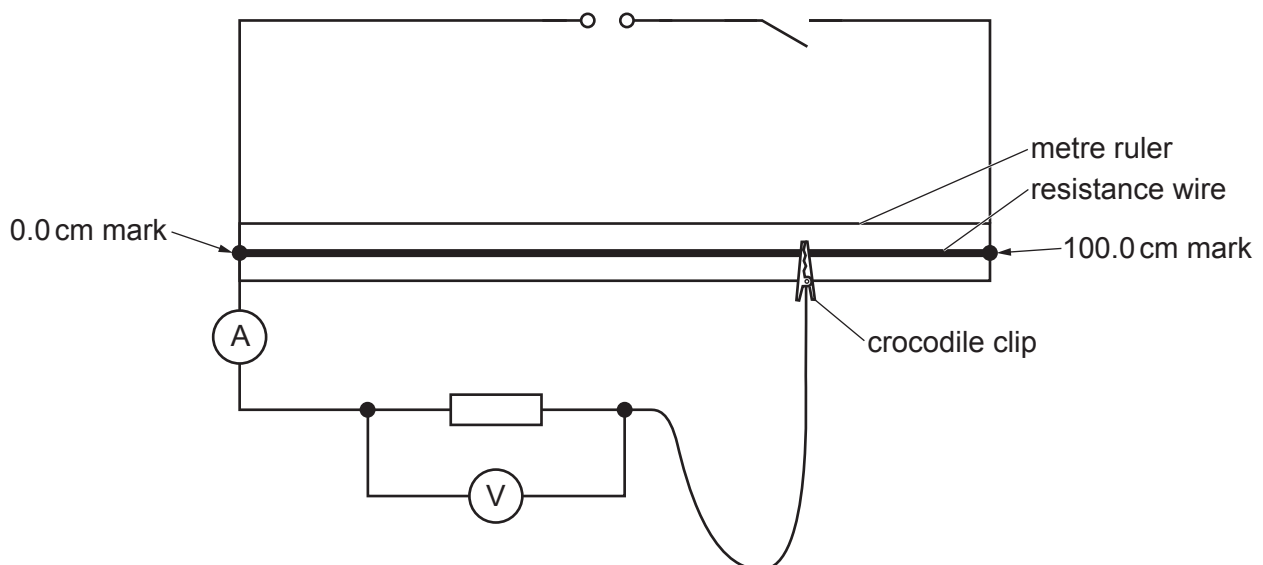

Fig. 2.1
- (vi) Sufficient connecting leads to set up the circuit shown in Fig. 2.1.
2. The circuit is to be set up for candidates as shown in Fig. 2.1, with the crocodile clip connected to the resistance wire. The position of the crocodile clip is not important.
Ensure that the circuit is connected as shown in Fig. 2.1 and check that the circuit is working.